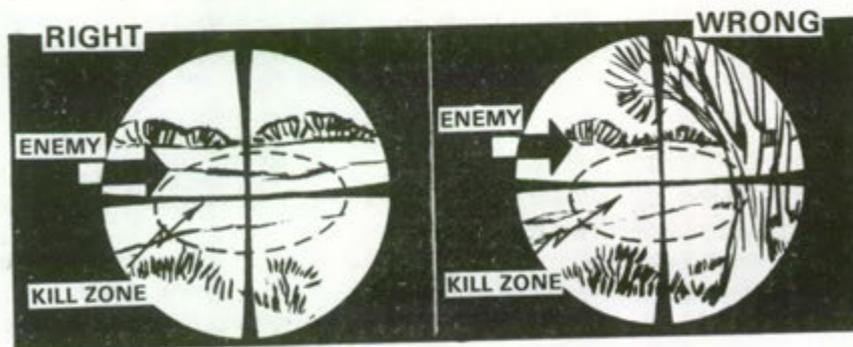

Figure 3.
d. Have a kill zone large enough, and free enough of obstruction, to allow a Dragon to track the vehicles when Dragons are employed (figure 3).